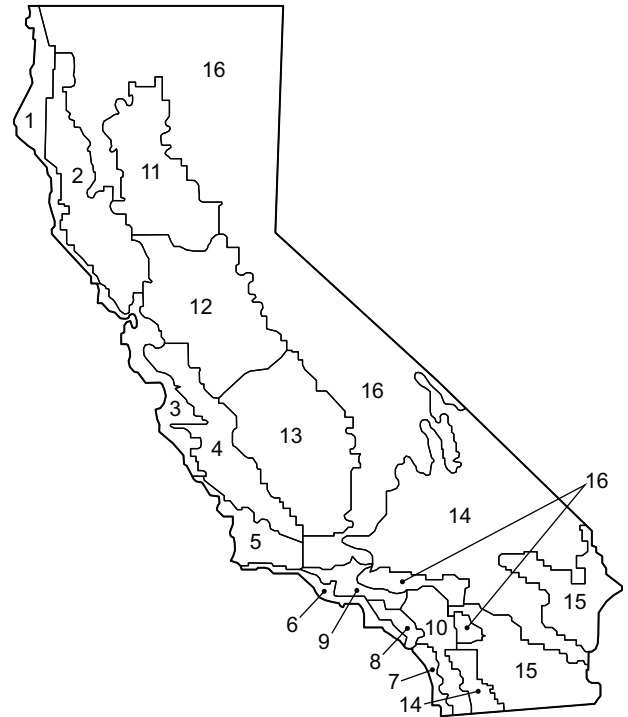

Fig. 12 — California Title 24 Zones
b. See Fig. 12 for map of California Title 24 zones